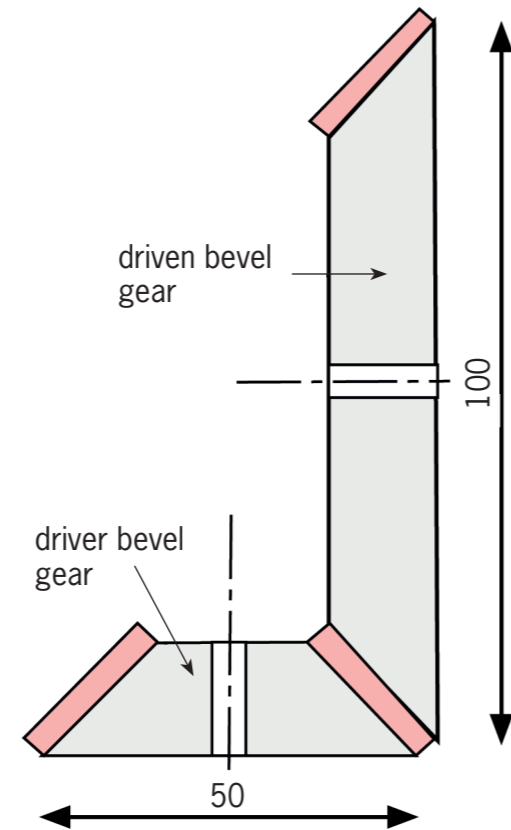

Figure 3
1. Study Figure 3 and then make a sketch of the system shown.
The sketch should resemble Figure 3 and include the labels and dimensions. It should be a hand-drawn sketch (drawn without using a ruler), so it does not need to be neat and accurate.
1. Make a 2D sketch of this system. Draw the straight gears as rectangles and the bevel gears like those shown in Figure 3.